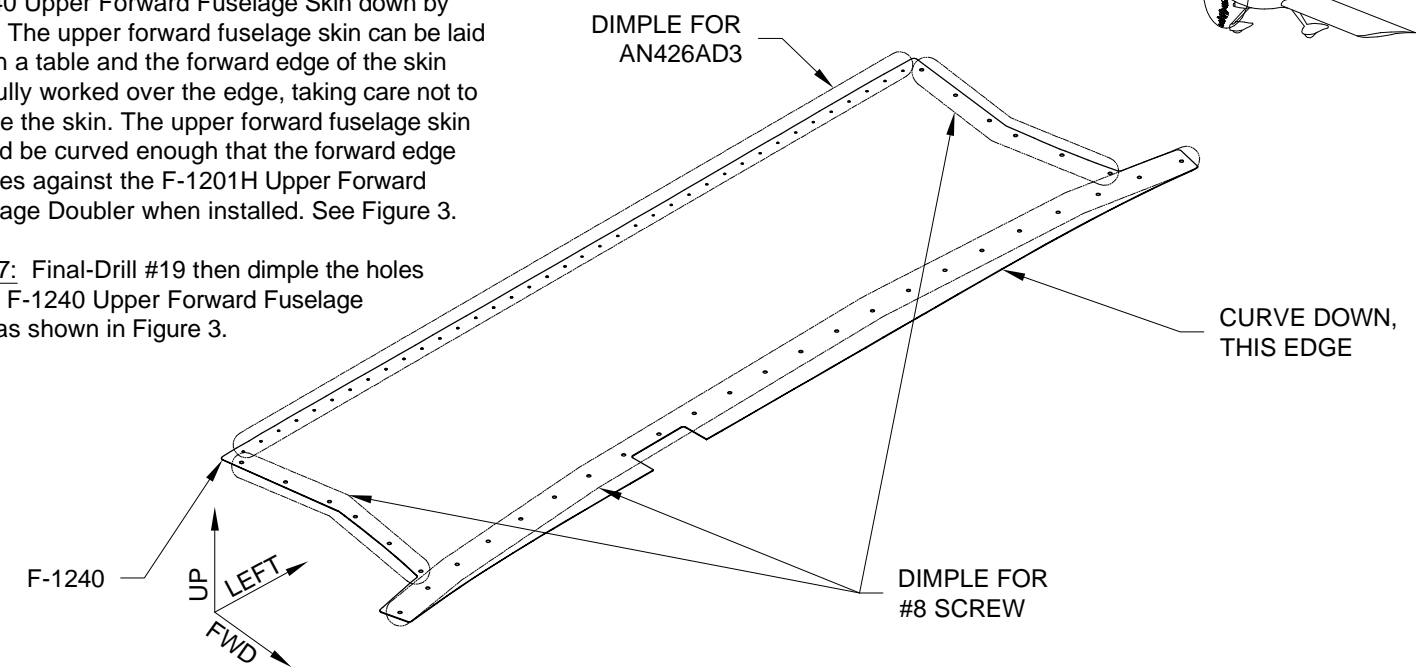

FIGURE 3: ROLLING THE UPPER FORWARD FUSELAGE SKIN
Step 6: Carefully curve the forward edge of the F-1240 Upper Forward Fuselage Skin down by hand. The upper forward fuselage skin can be laid flat on a table and the forward edge of the skin carefully worked over the edge, taking care not to crease the skin. The upper forward fuselage skin should be curved enough that the forward edge presses against the F-1201H Upper Forward Fuselage Doubler when installed. See Figure 3.
Step 7: Final-Drill #19 then dimple the holes in the F-1240 Upper Forward Fuselage Skin as shown in Figure 3.